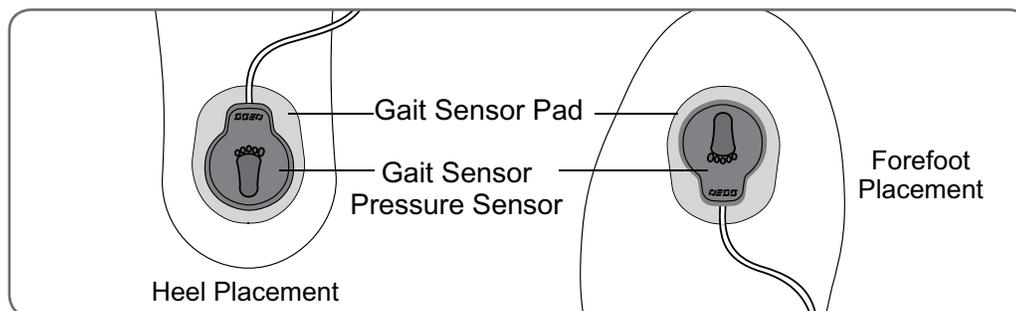

Figure 10-13: Positioning the Gait Sensor in the shoe.
3. For **heel position** placement point the wire of the Intelli-Sense Gait Sensor toward the toe of the shoe. For **forefoot position** placement point the wire of the Intelli-Sense Gait Sensor toward the heel of the shoe. Attach the pressure sensor to the Gait Sensor pad. See Figure 10-13.